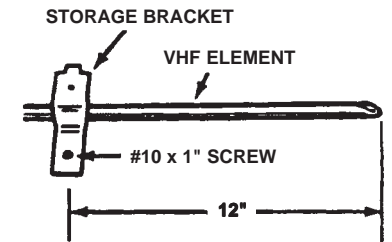

Figure 7
STEP 14. Place storage brackets approximately 12" from end of long VHF element and attach to vehicle with one (1) #10 x 1" sheet metal screw. See Figure 7.